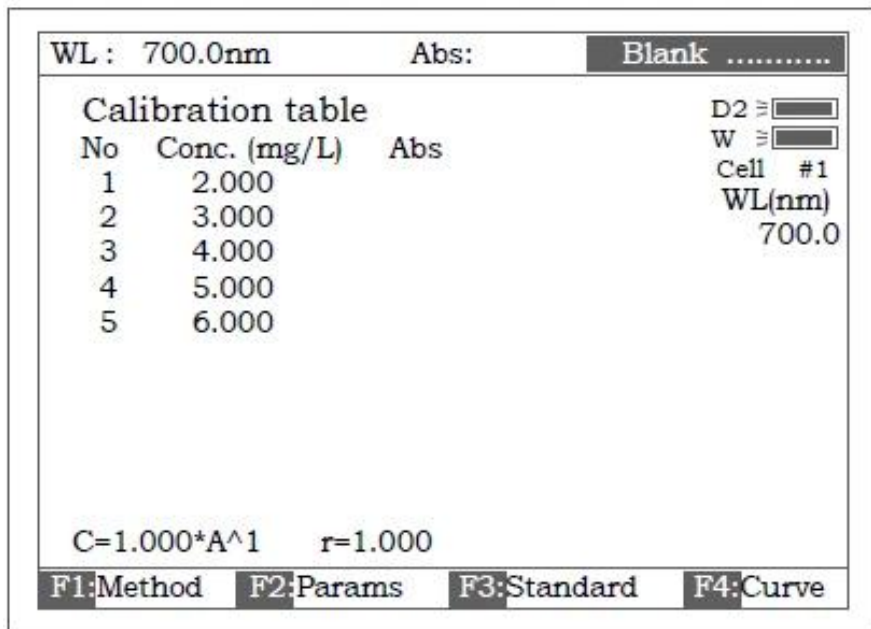

Figure 32
Press **【ESC/STOP】** to finish inputting and to exit (Fig 32).
3.3.2 Push the blank cuvette into the Reference Light Path and Main Light Path, press **【0Abs/%100T】**, the instrument will step to the wavelength and blank. See Fig 32.